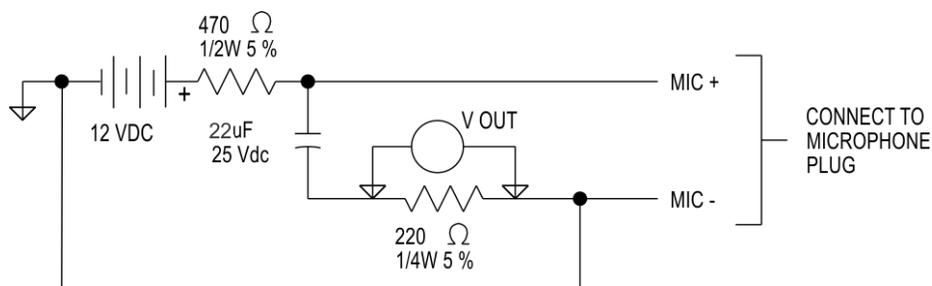

FIGURE 1. Airman 750 Headset Boom Microphone Sensitivity Check Test Circuit
1. Construct a **test circuit**. For more information, see Figure 1.